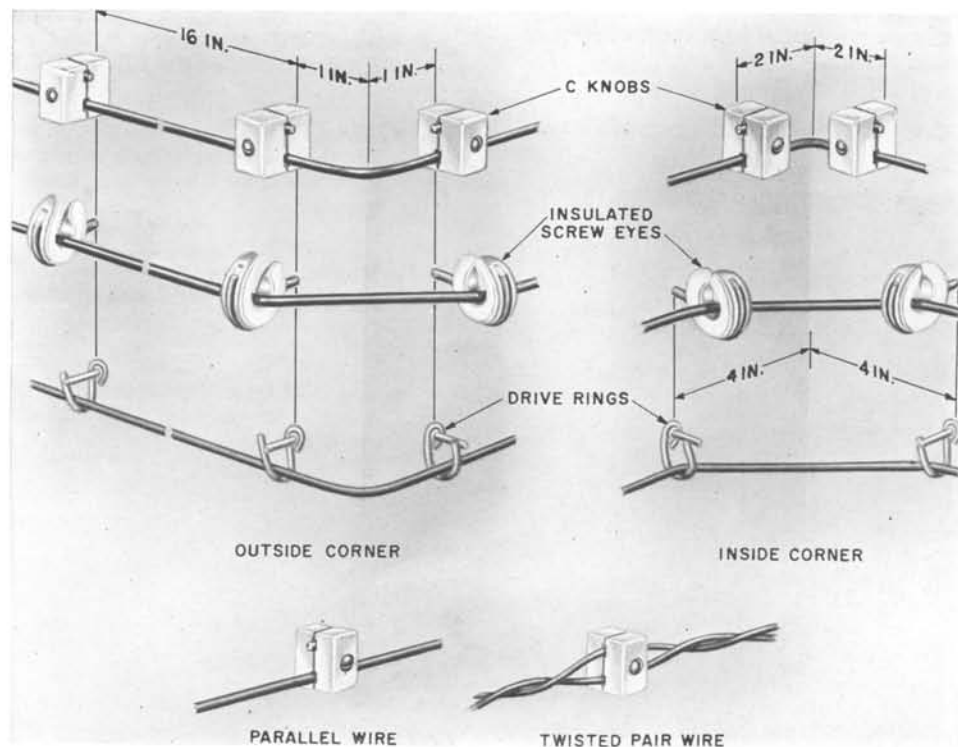

FIG. 15—FASTENING DROP AND BLOCK WIRE INSIDE OF BUILDINGS
6.02 Methods of fastening drop and block wires at exposed stations between the point of entrance and the protector are shown in Fig. 15.